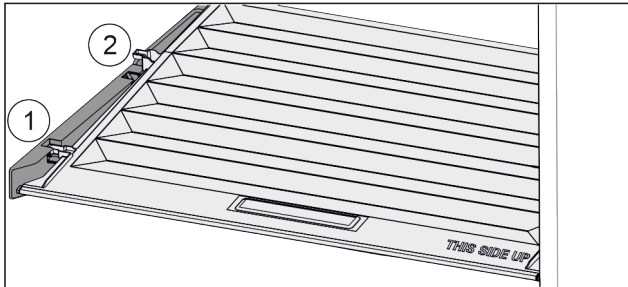

Fig. 135
- ▶ Pull the lid up at the front to the opening in the retaining parts Fig. 135 (1).
- ▶ Lift from the back and pull it up and out Fig. 135 (2).